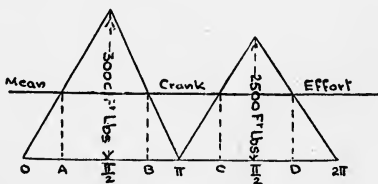

Fig 1
4. The crank effort diagram for a double acting single cylinder engine is shewn in Fig. 1. The engine works against a steady resistance. The mass of the flywheel is 3 tons. Its radius of gyration is 3 feet. If the speed of rotation is 120 revs. per minute for the crank position *A*, calculate the speed at the crank positions *B*, *C* and *D*.